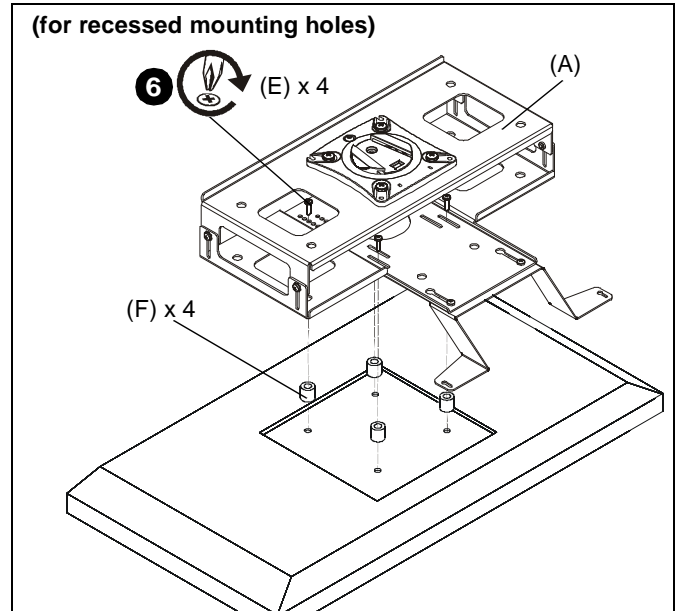

Figure 7
- Use four M4x25mm Phillips pan machine screws (E) and M10 spacers (F) to secure interface bracket (A) to back of display. (See Figure 7)